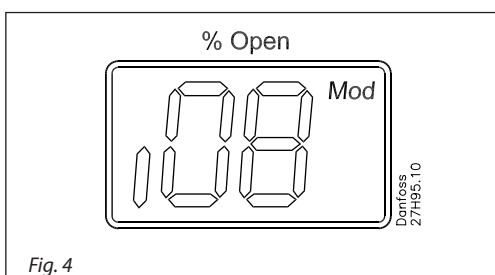

Fig. 4
- Gives access to the **Parameter list** by keeping the push button activated for 2 seconds. A **Parameter list** example is shown below (parameter **i08**, fig. 4).